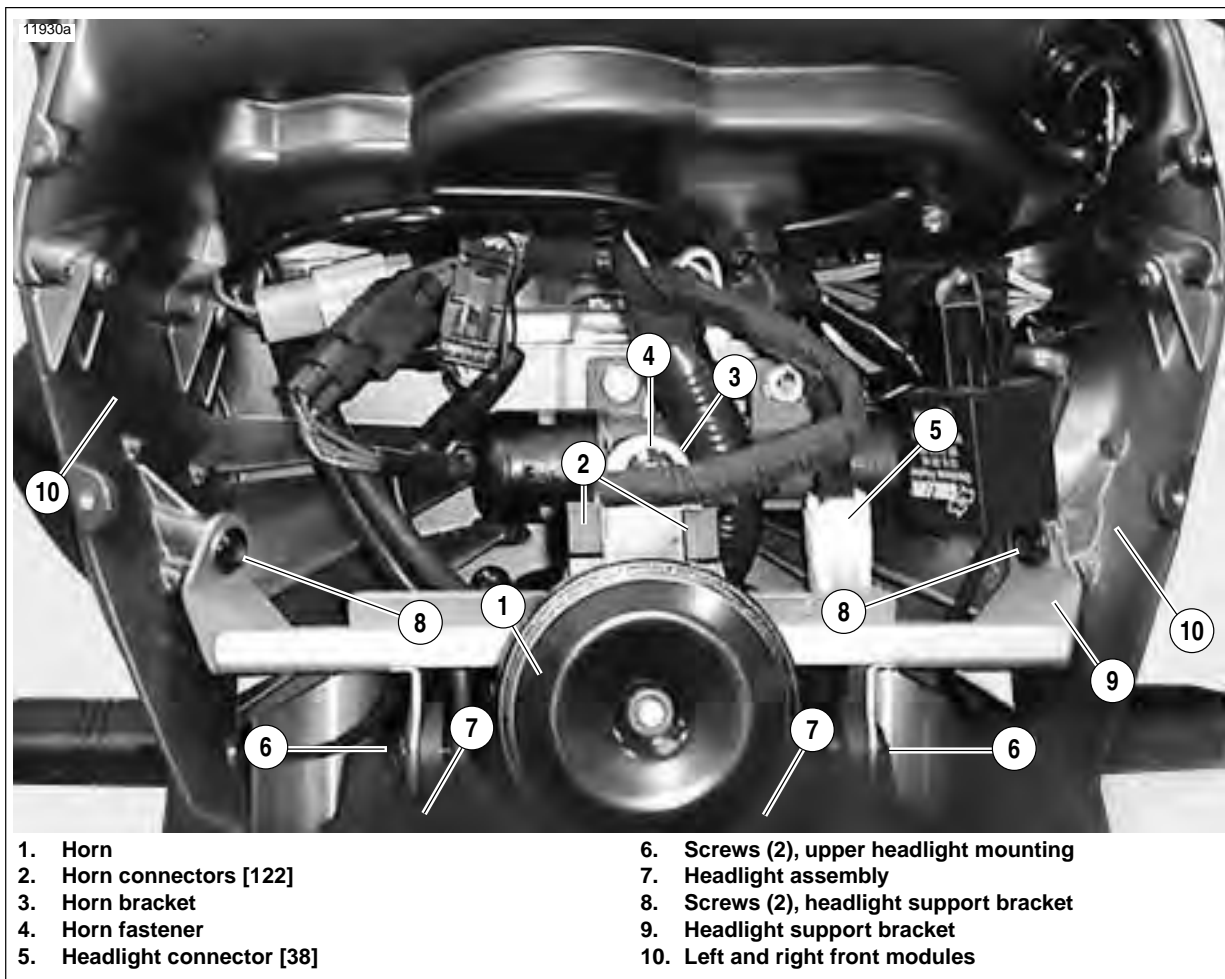

Figure 2-107. Headlight and Support Bracket
4. See Figure 2-107. Disconnect horn connectors [122] (2).
5. See Figure 2-107. Separate headlight connector [38] (5).
6. Remove female connector [38B] from support bracket (9) by sliding connector up and off of bracket clip.
7. Remove both upper headlight fasteners (6).